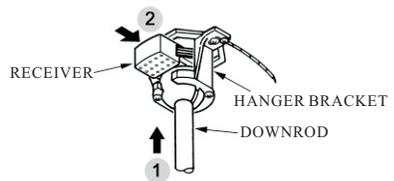

FIG.6
2. Carefully lift the fan and seat the down rod ball assembly on the hanger bracket. Be sure the groove in the ball is lined up with tab on the hanger bracket .Do not pinch wires between the ball and down rod assembly and hanger bracket. (See fig.6)